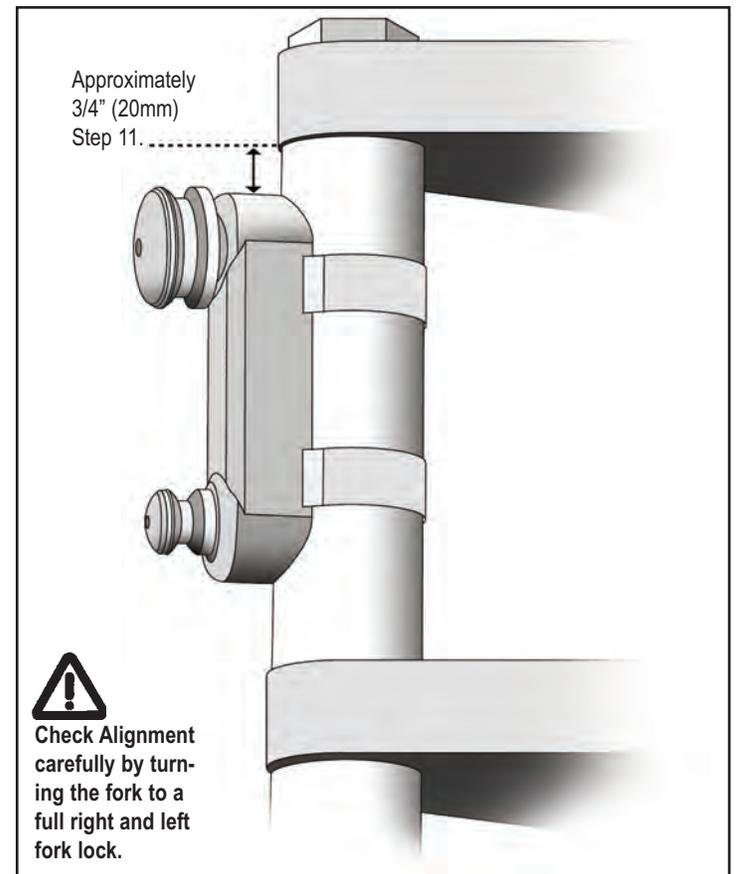

Figure 4.
11. Adjust top edge of Mount Cup to be about 3/4" (20mm) from the upper triple clamp. **See Figure 4.**